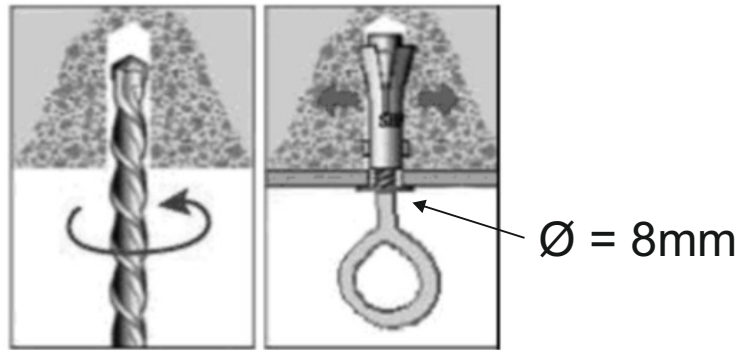

Fig. 5
2. Drive the metal screw with the hanging eye into the hole. Secure the bolt by turning it clockwise (then the metal parts of the bolt will be expanded into the concrete). See figure 5. Check that the dangle eye is properly threaded into the screw. Make sure that the mounting kit can support a weight of at least 15 kg.